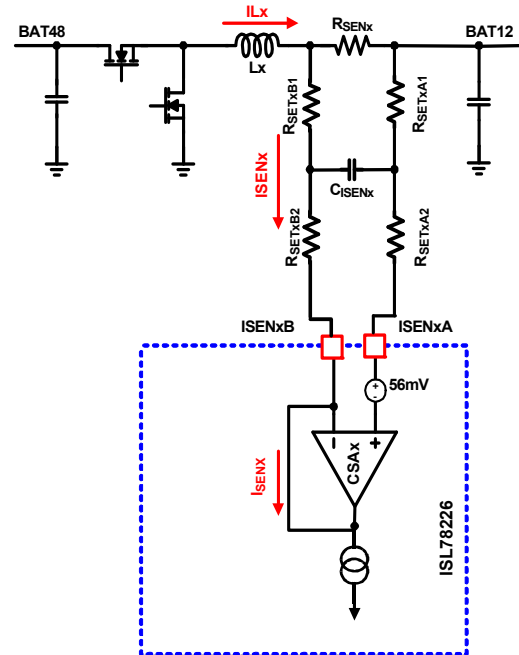

FIGURE 135. CURRENT-SENSING BLOCK DIAGRAM FOR INDIVIDUAL PHASE I_{SENx}
The ISL78226 peak current control architecture senses the inductor current of each phase continuously for fast response. A sense resistor (shunt) is placed in-series with the power inductor for each phase. The ISL78226 Current-Sense Amplifiers (CSA) continuously sense the respective inductor current (as shown in Figure 135) by sensing the voltage signal across the sense resistor R_{SENx} (where "x" indicates the specific phase number and same note applied throughout this document). The sensed current for each active phase will be used for peak current mode control loop, phase current balance, individual phase cycle-by-cycle peak current limiting (OC1), individual phase overcurrent fault protection (OC2), averaged Constant Current Limit (CCL) control, Average Overcurrent Protection (AOCP), Diode Emulation (DE), and Phase Drop/Add control. The internal circuitry shown in Figure 135 represents a single phase and is repeated for each phase.
The RC network between R_{SENx} and ISENxA/ISENB pins as shown in Figure 135 is the recommended configuration. The current gain setting resistor, R_{SETxB} , is R_{SETxB1} plus R_{SETxB2} in Figure 135 and that sum should be fixed at 1k Ω .
It is also recommended to have $R_{SETxA} = R_{SETxB}$ and all four resistors as equal in value as standard values allow. Insert a capacitor, C_{SENx} , between them as shown in Figure 135. This will form a symmetric noise filter for the small current-sense signals. The differential filtering time constant equals $(R_{SETxA1} + R_{BIASxB1}) \cdot C_{SENx}$. This time constant is typically selected in the range of tens of ns depending on the actual noise levels.